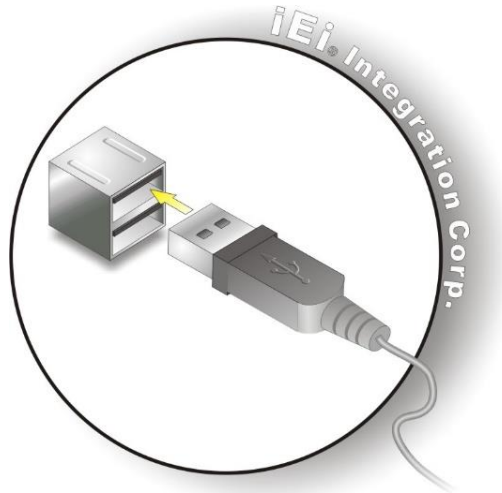

Figure 3-15: USB Connection
- Step 2: Align the connectors.** Align the USB device connector with one of the connectors on the I/O panel. See **Figure 3-15**.